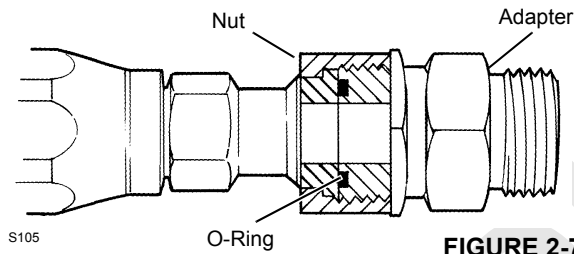

FIGURE 2-7
- Lubricate and install o-ring in adapter groove (Figure 2-7).